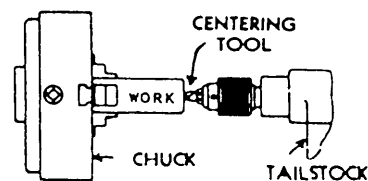

Figure 6-44.—Drilling center hole.
**CENTERING THE WORK.**—To center drill round stock such as drill-rod or cold-rolled steel, secure the work to the head spindle in a universal chuck or a draw-in collet chuck. If the work is too long and too large to be passed through the spindle, use a center rest to support one end. It is good shop practice to first take a light finishing cut across the face of the end of the stock to be center drilled. This will provide a smooth and even surface and will help prevent the center drill from “wandering” or breaking. The centering tool is held in a drill chuck in the tailstock spindle and fed to the work by the tailstock handwheel (fig. 6-44).